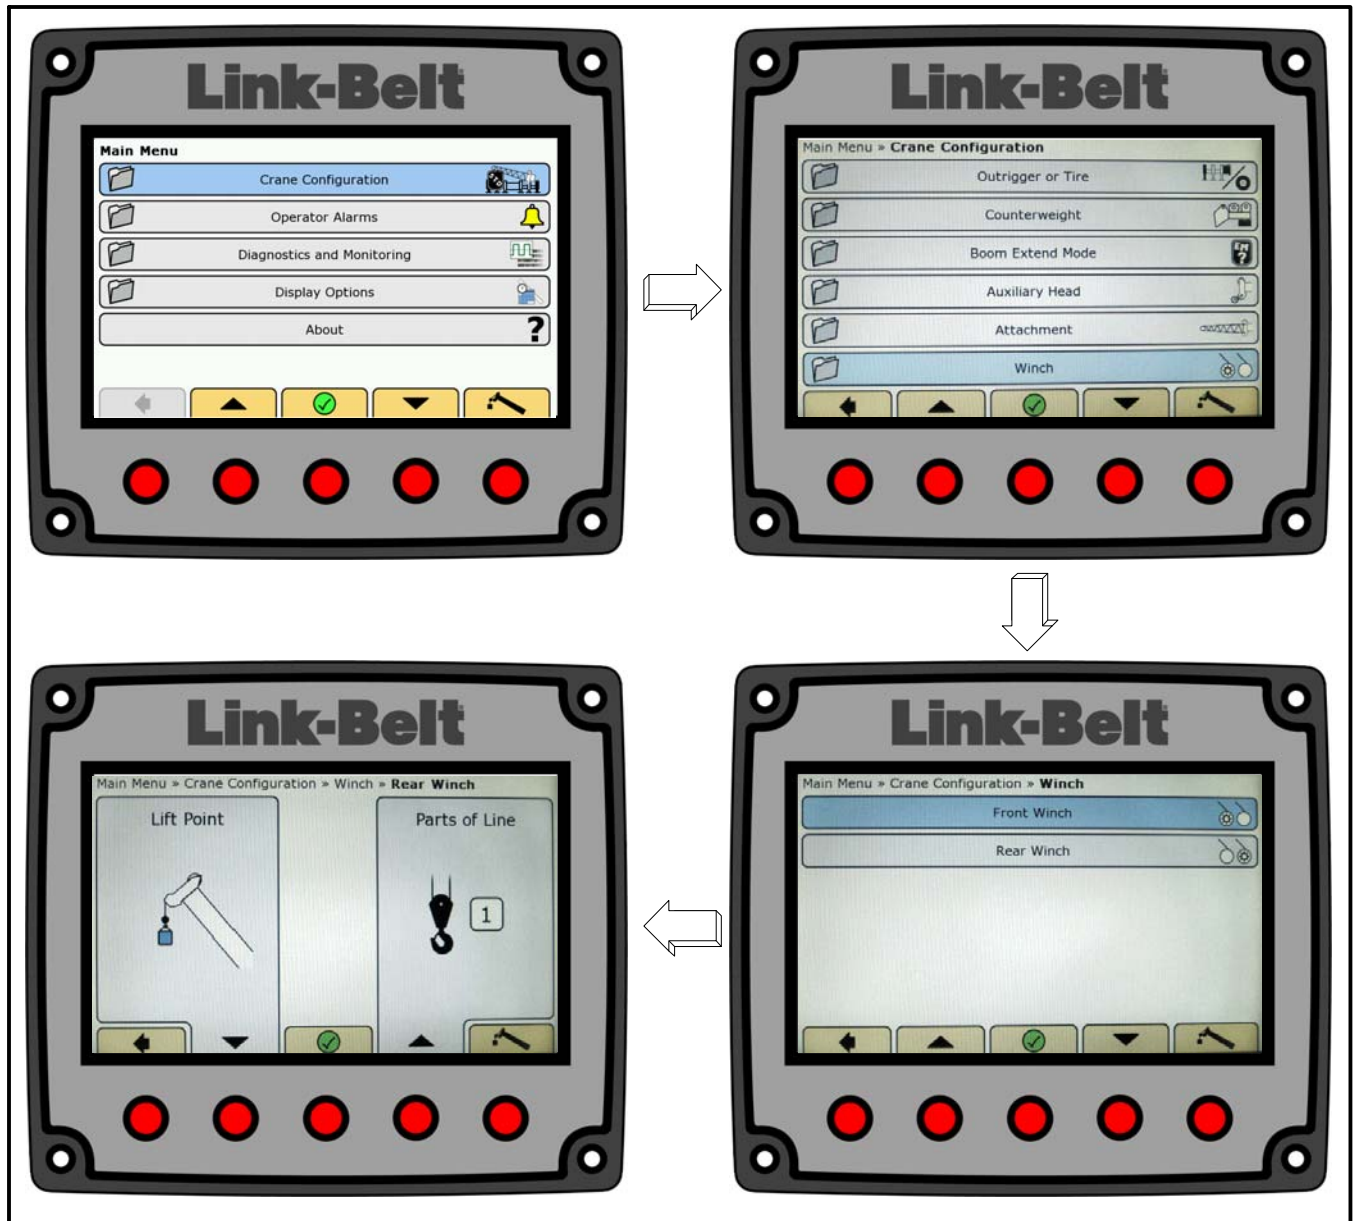

Figure 1–91
19. On the Crane Configuration menu, scroll to Winch, and press the OK/Enter button  to display the front and rear winch items. Refer to Figure 1–91.